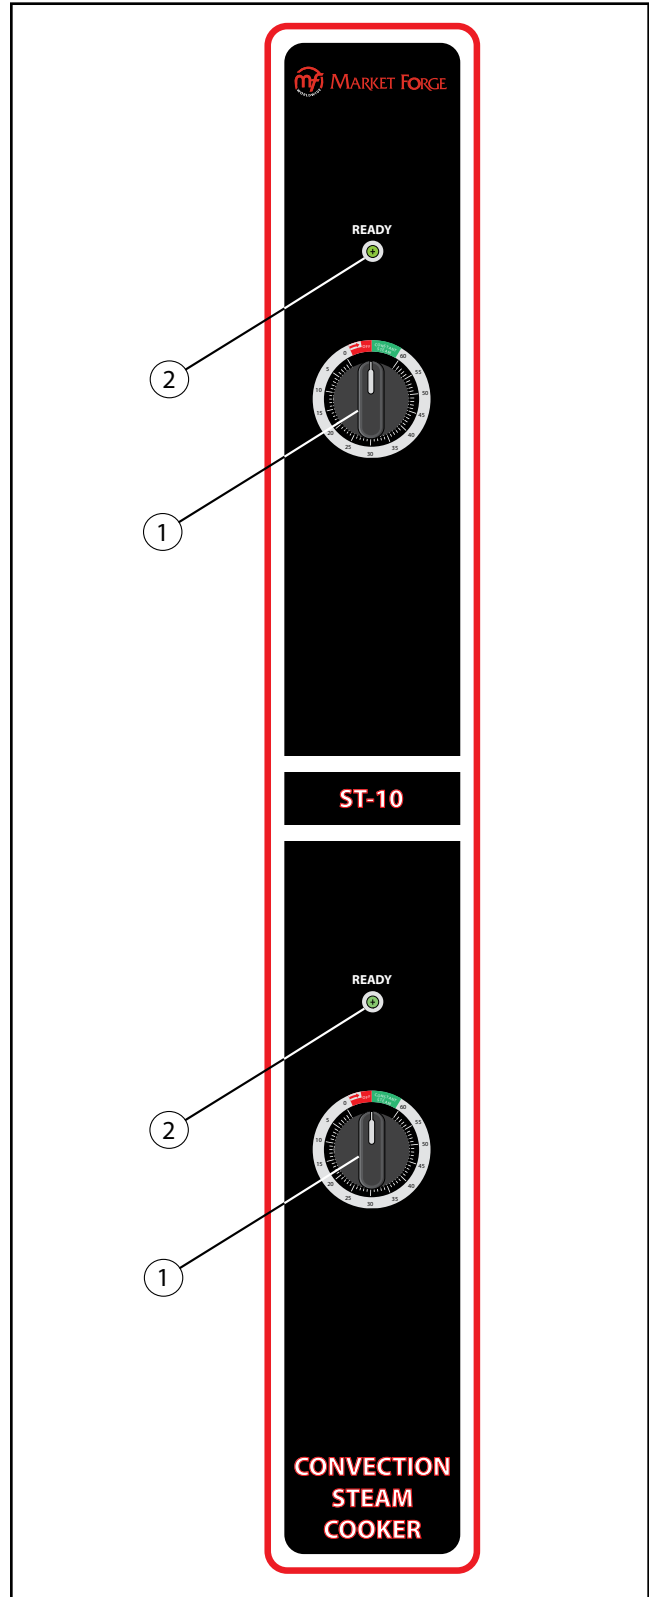

Figure 3-1 Controls and Indicators
Before making this check-out, the operator must be thoroughly familiar with the operating procedures in Section 3 and with the function of each control described in Table 3-1. Reference Figure 3-1 for identification of controls required in the following procedures.
2. Cooker timers for both compartments (Figure 3-1) are in the OFF position.
The controls and indicators required to operate the Pressureless Steam Cooker are listed in Table 3-1, together with a short functional description of each. Figure 3-1 shows the physical location of each control and indicator.
(See Figure 3-1)